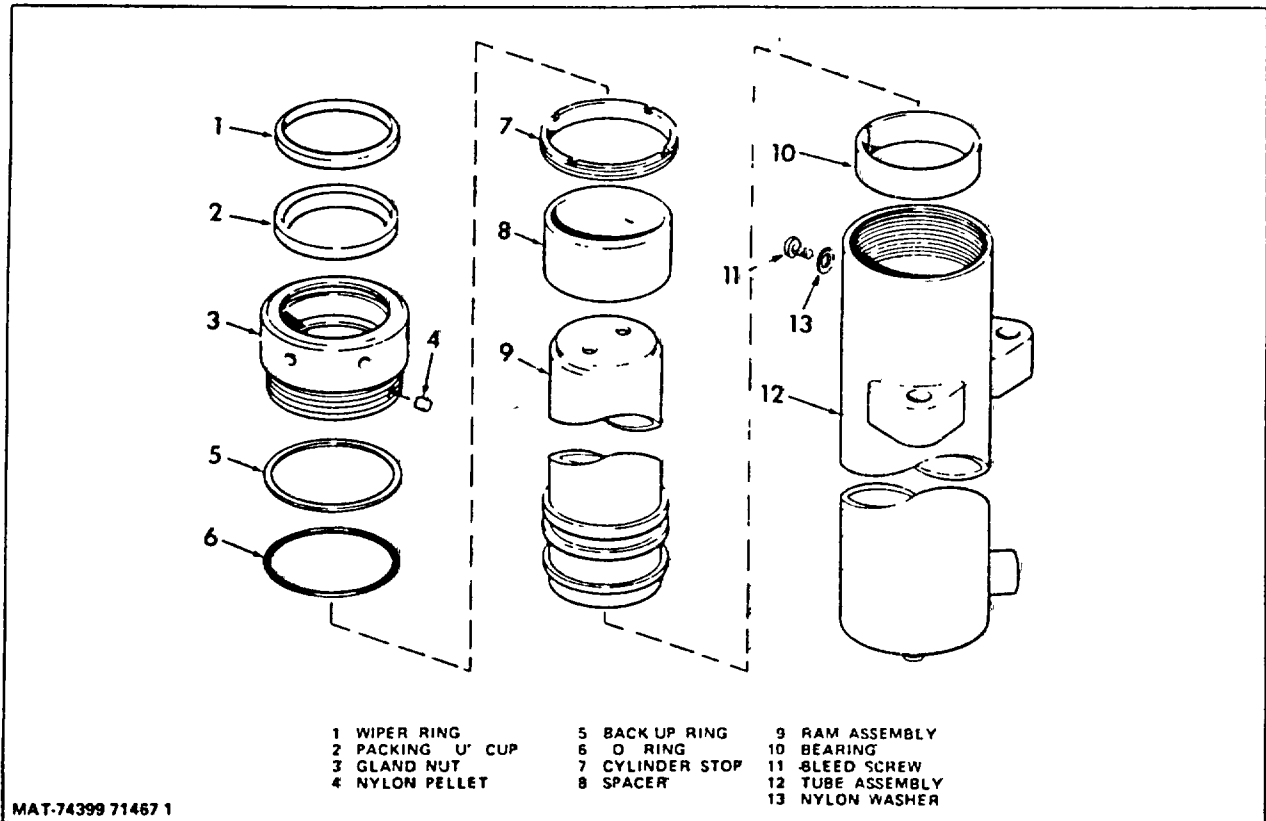

Figure 10. Primary Cylinder Exploded View
1. Refer to Figure 10 and install packing and wiper ring to inside of gland nut. Install back-up ring, "O" ring, and nylon pellets to outside of gland nut. Set preassembled gland nut off to side.